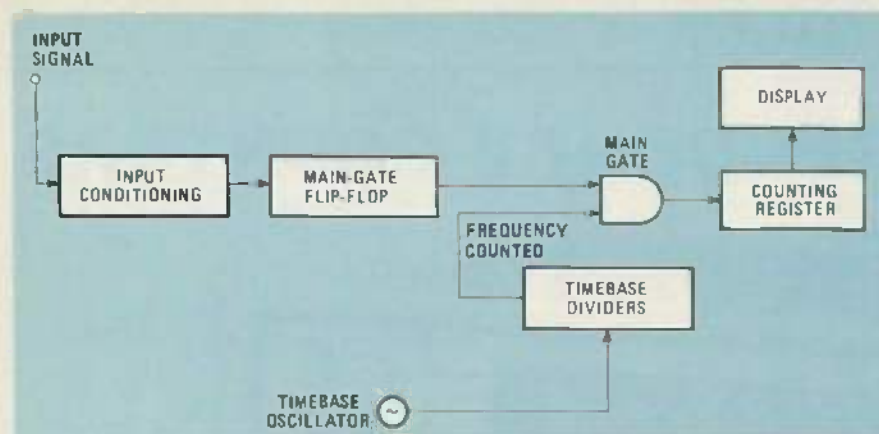

FIG. 2—PERIOD MEASUREMENTS are made by counting the number of pulses from the timebase oscillator that occur while the input pulse is active.
*Period measurements* are made by determining the amount of time a signal takes to complete one cycle of oscillation. In this mode, as shown in Fig. 2, the counting register counts pulses from the timebase oscillator, and the input signal